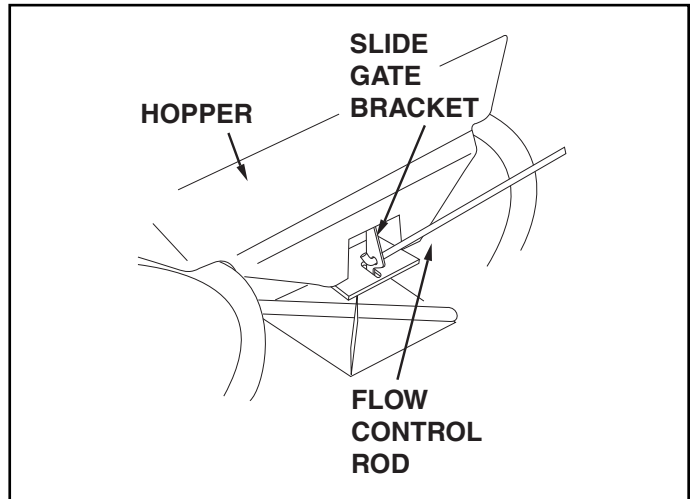

FIGURE 6
- Insert the hook end of the flow control rod through the hole in the slide gate bracket located under the hopper. See figure 6.